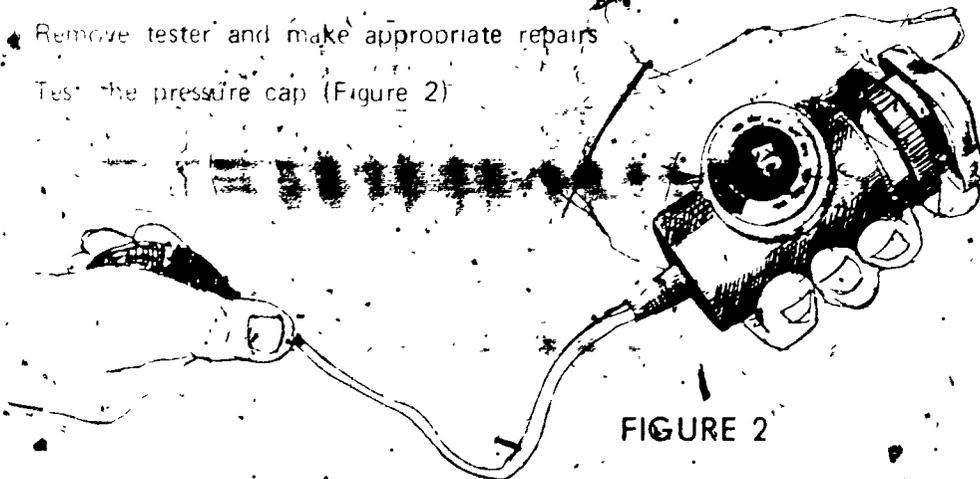

FIGURE 2
H. Test the pressure cap (Figure 2).